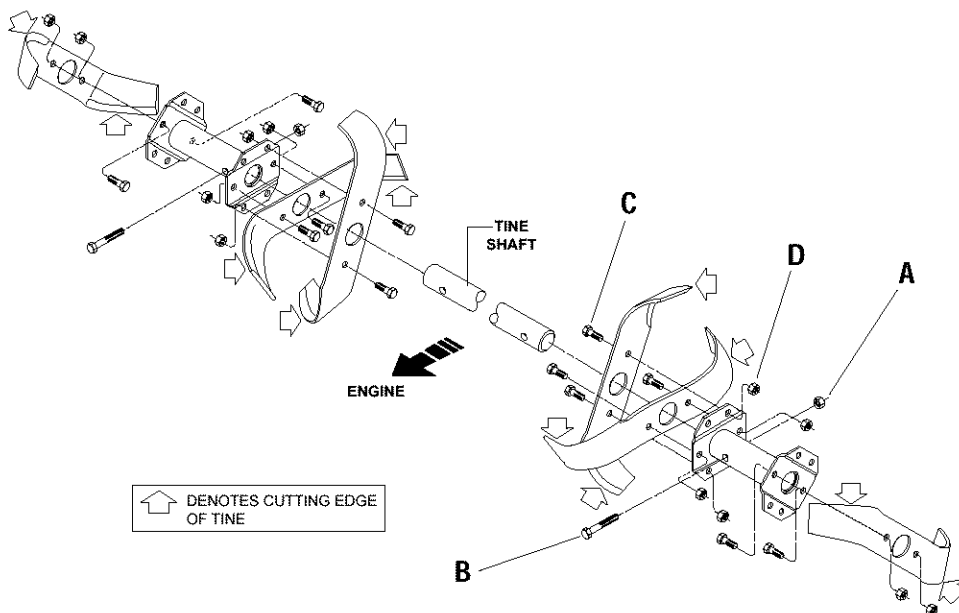

Figure 5-7: Complete tine assemblies— holders, tines and hardware.
1. Use a 9/16" socket, 6" extension, a ratchet, and a 9/16" box wrench to loosen the nut (A, Figure 5-7) and bolt (B) that secure the tine holder to the tine shaft.
1. Use two 9/16" box end wrenches to remove the two bolts (C, Figure 5-7), and nuts (D) that secure the tine to its tine holder.
This is a CRT (counter-rotating tine) tiller and its tines must be mounted in the direction shown in Figure 5-7. If mounted with the curves in the opposite direction, the tiller will dig poorly and be more likely to run backward.